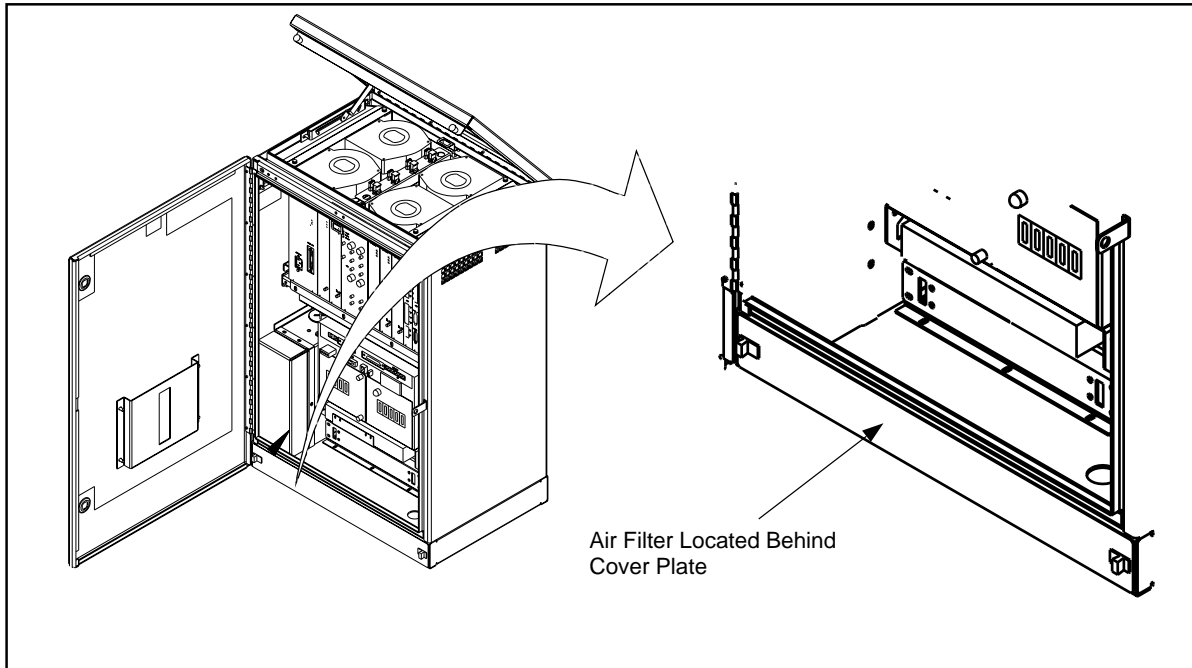

Figure 5-30. Air Filter Location
3. See Figure 5-30 on page 5-58.